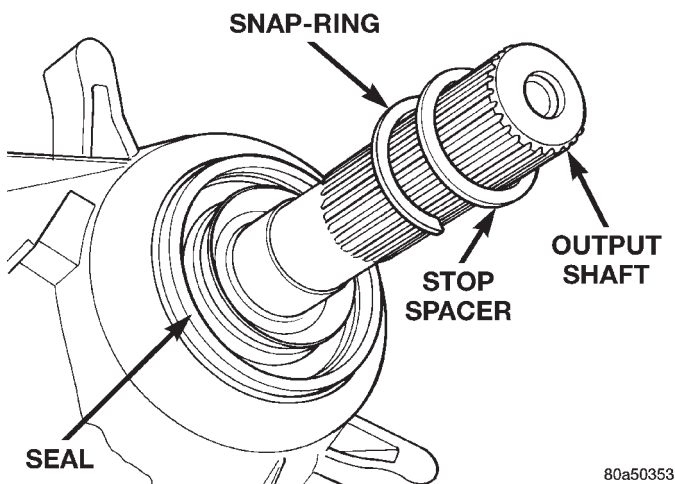

Fig. 9 Slinger Stop Spacer and Snap-ring
(5) Remove slinger stop spacer and snap-ring from output shaft (Fig. 9).